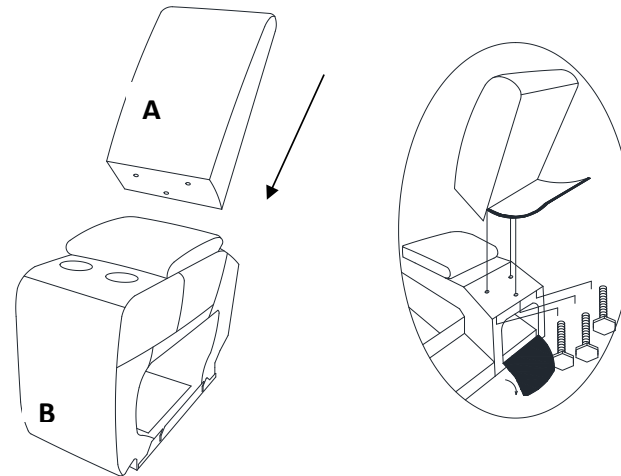

Figure 2
Align the holes on the Back(A) and Base(B), tighten with bolts. (See Figure 2.)
Fasten the back flap to the bottom of the furniture. (See Figure 2.)